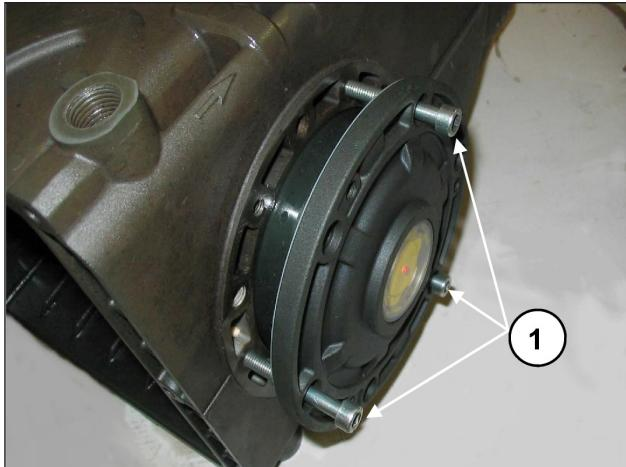
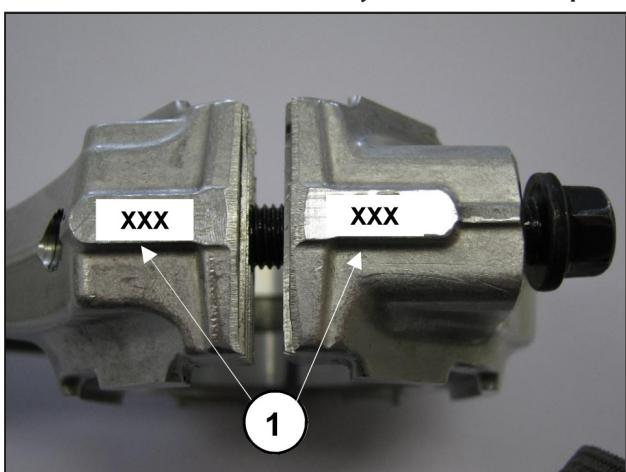

Fig. 8
Fig. 9
To facilitate filling of the first section and relative press fitting of the covers on the casing, we recommend using 3 partially-threaded M6 x 40 screws (Fig. 8, pos. ①) to then complete the operation with the screws supplied (M6x18).
- Couple the con-rod caps to their shanks, referring to the numbering (Fig. 9, pos. ①).
To move the two lateral covers near the guard, it is possible to use No. 3 screws M6x40 for a first orientation step, as indicated in Fig. 8, and the screws required for the final fixing.
After having removed the side covers as indicated in par. 2.1.1, remove the outer ring nut of the bearings from the relative covers and the inner ring nut with the remaining part of the bearing from the two ends of the shaft by means of a normal "pin punch" or a similar tool as indicated in Fig. 8 and Fig. 9.